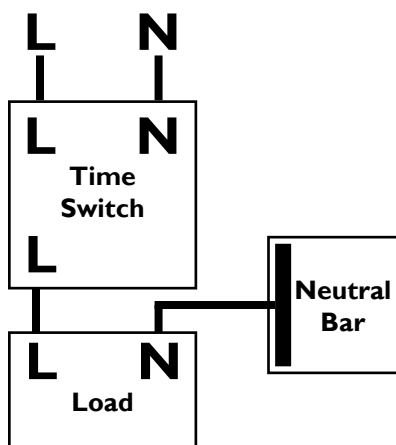
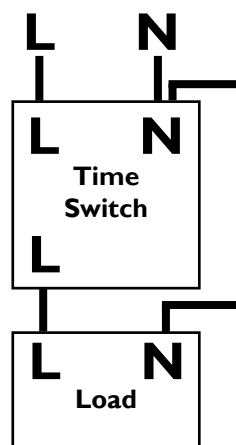

Figure 1: DB wiring
Figure 2: Stand alone wiring
3. Connect the time switch according to Figure 1 or Figure 2. Use a suitable contactor (Figure 3) if necessary to switch higher current. Observe markings for Line and Neutral poles.